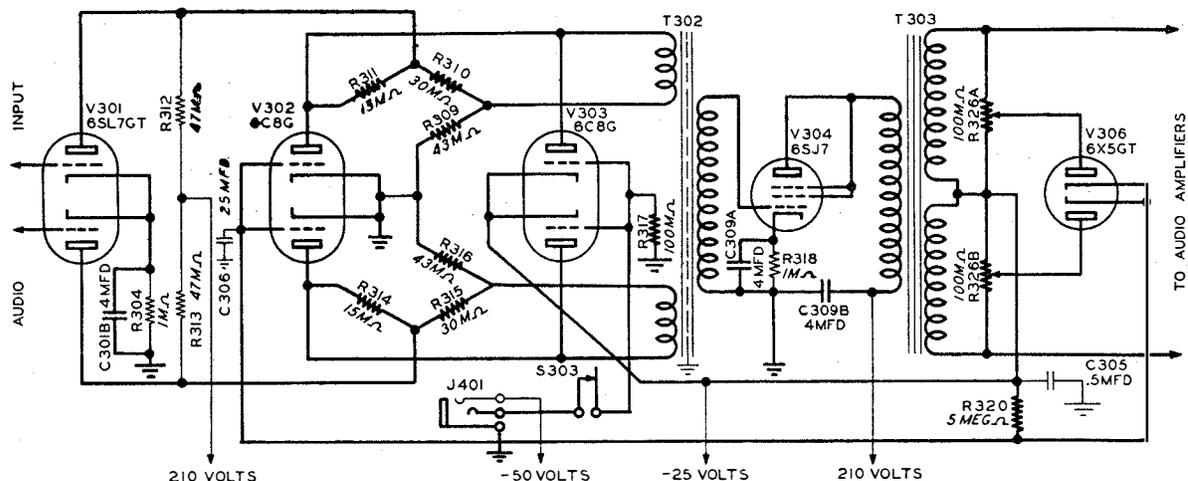

Fig. 13 Limiter and Audio Amplifier Circuits (Dwg. No. 500 0737 00A)
2.9.3. Volume Limiter and 2nd Audio Amplifier. Refer to Fig. 13. The volume limiter that is incorporated in this equipment has been designed to control the audio signal level and to give uniform speech amplifier output with a relatively wide variation of audio input. When the limiter control is properly adjusted, increasing the input to the preamplifier as much as 25 db will cause a rise in the speech amplifier output which will not exceed 3 db. The limiter circuit utilizes the principle of the familiar Wheatstone resistance bridge.